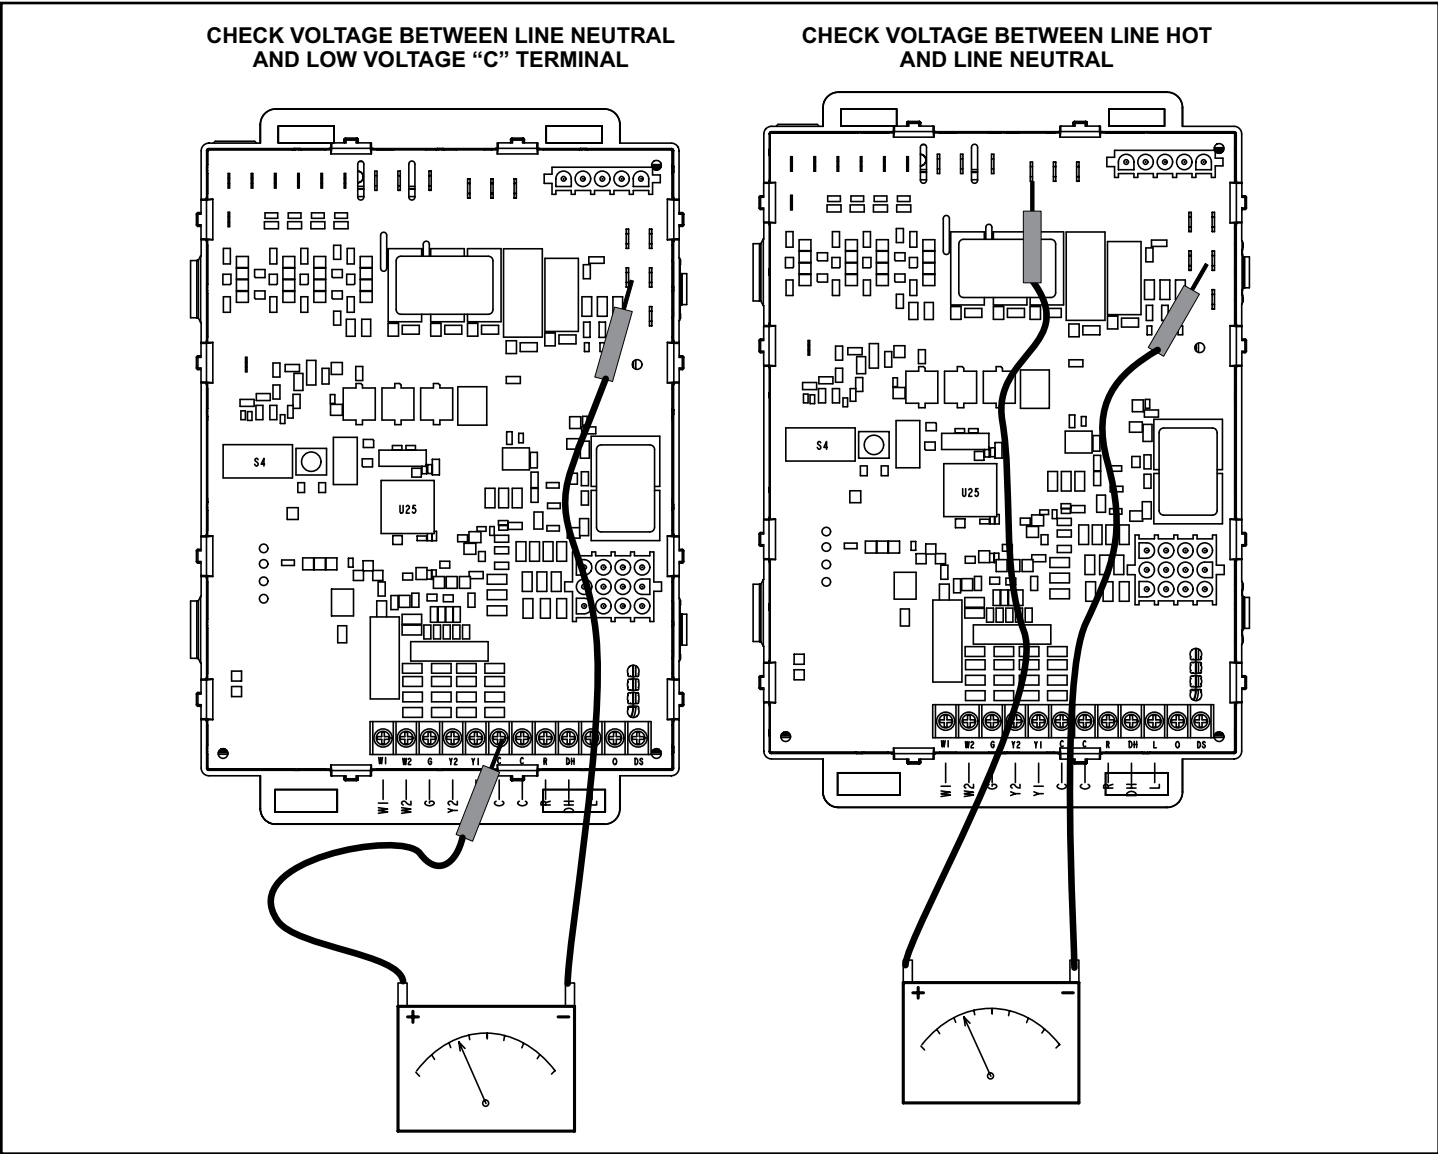

Figure 47.
- 1. Measure the AC voltage between Line Neutral (spade terminals) and “C” terminal (low voltage terminal block) on the integrated control. See Figure 47. A wide variation in the voltage between Line Neutral and “C” as a function of load indicates a poor or partial ground. Compare the readings to Table 20. If the readings exceed the maximum shown in Table 20, make repairs before operating the furnace.
- 2. In addition, measure the AC voltage from Line Hot to Line Neutral (spade terminals) on the integrated control. See Figure 47. This voltage should be in the range of 97 to 132 VAC